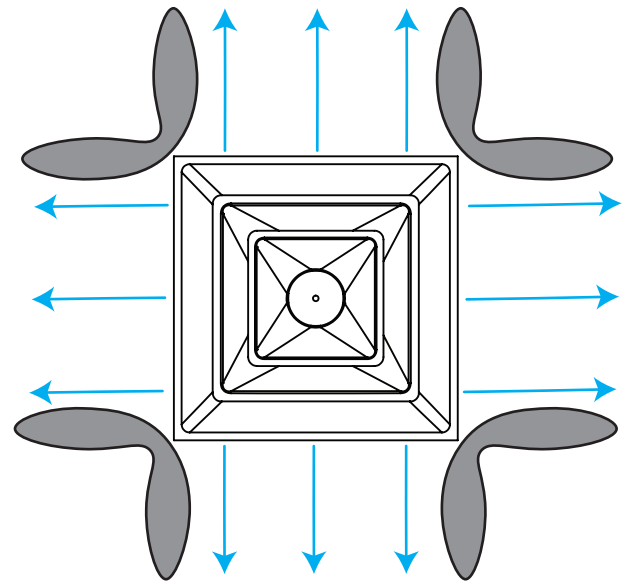
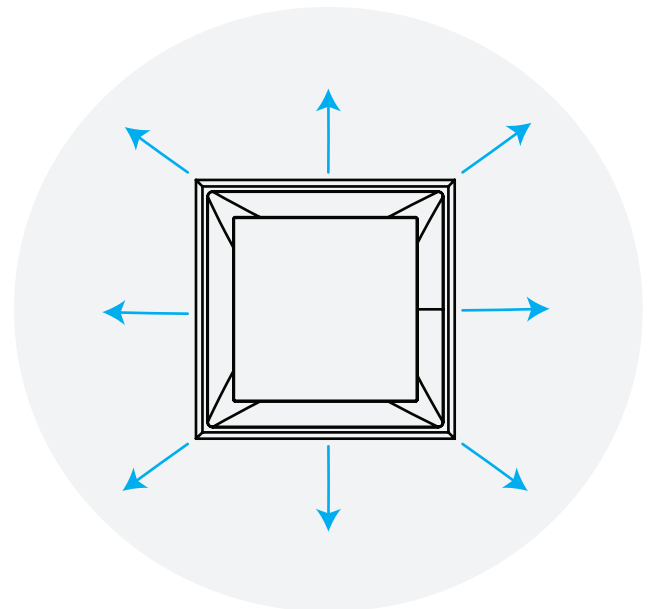

Figure 5: Louvered Diffuser Smudge Pattern
Figure 6: Plaque Diffuser Smudge Pattern
6. Along the same lines as option five is our last concept, which is to consider diffuser selection. Directional diffusers generally produce a less uniform air pattern across the ceiling, resulting in air jets going in several directions. This can lead to heavy smudging along the edges of each jet, which is very noticeable, as shown in **Figure 5**. A plaque type diffuser distributes air in an even, uniform circle around the diffuser, which results in smudges occurring in a more uniform pattern across the ceiling, as shown in **Figure 6**.